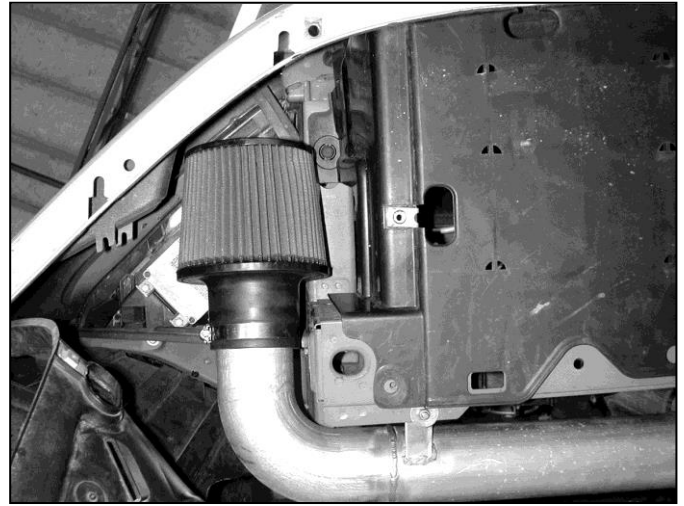

Fig.10
- n. Install the air filter on the end of the lower inlet pipe using the included No. 48 clamp. **(Fig. 10)**